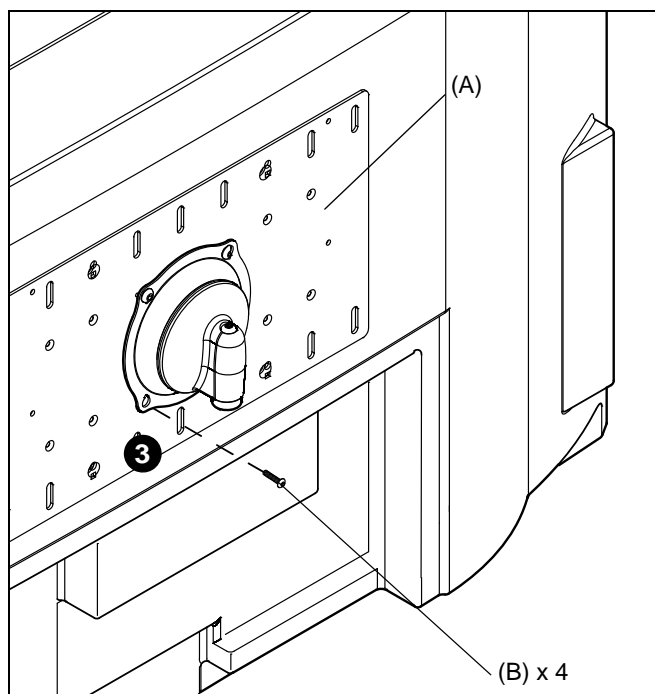

Figure 4
3. Hold display so that display back is against Centris cup and install two M4 x 8mm Phillips pan head machine screws (B)
through lower mounting holes in Centris cup and into lower mounting holes in interface bracket (A). (See Figure 4)